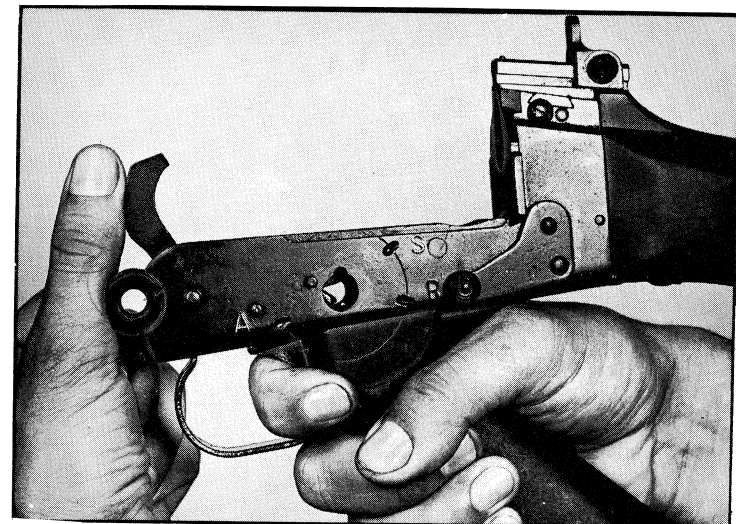

Fig. 90
b) **Hammer.** — With the thumb on the hammer to control its movement, depress the trigger and let the hammer gently down (fig. 90).